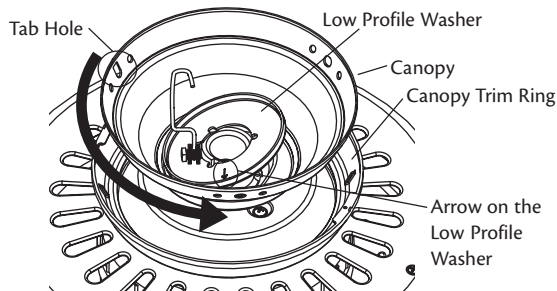

Figure 15 - Assembling canopy for low profile mounting
6. Place the canopy trim ring then the canopy over the adapter as shown in Figure 15.
7. Place the low profile washer (lip up) into the canopy as shown in Figure 15 fitting the notch in the low profile washer over the adapter set screw and hook.
8. Rotate the canopy until the arrow on the low profile washer aligns with the tab hole on the canopy as shown in Figure 15.